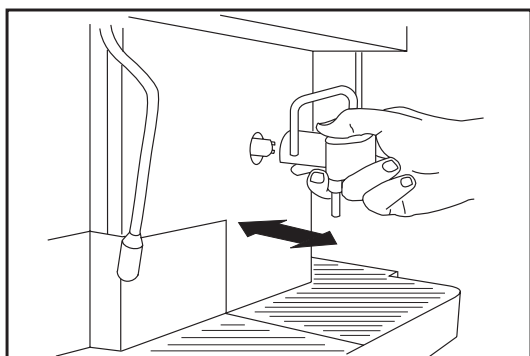

Fig. 12
- **Coffee nozzle:** Remove the nozzle by gently pulling it towards the outside (fig.12) wash it in hot water and then reinstall it.